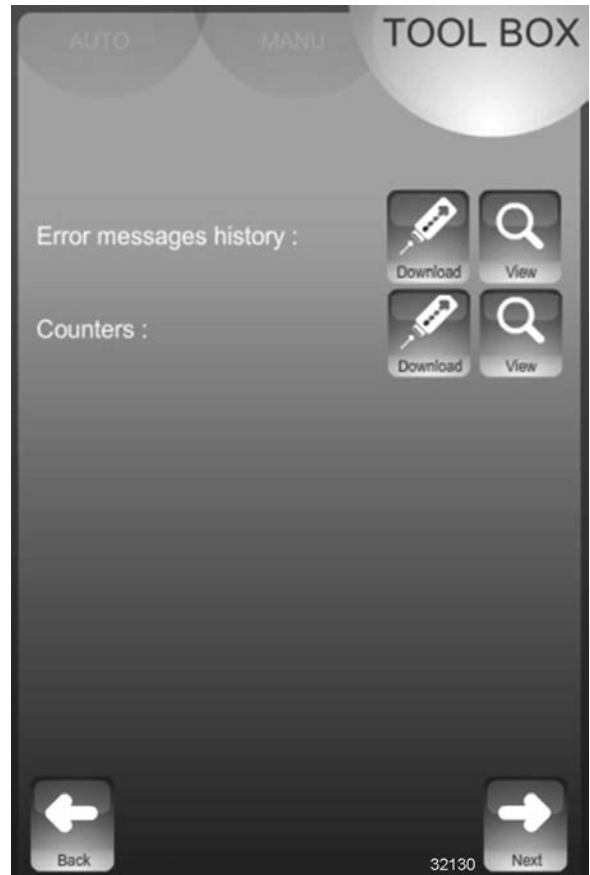

Fig. 96
4. Select **Next** icon to activate **Error History / Counters** screen (Fig. 96). Additional information is found in .